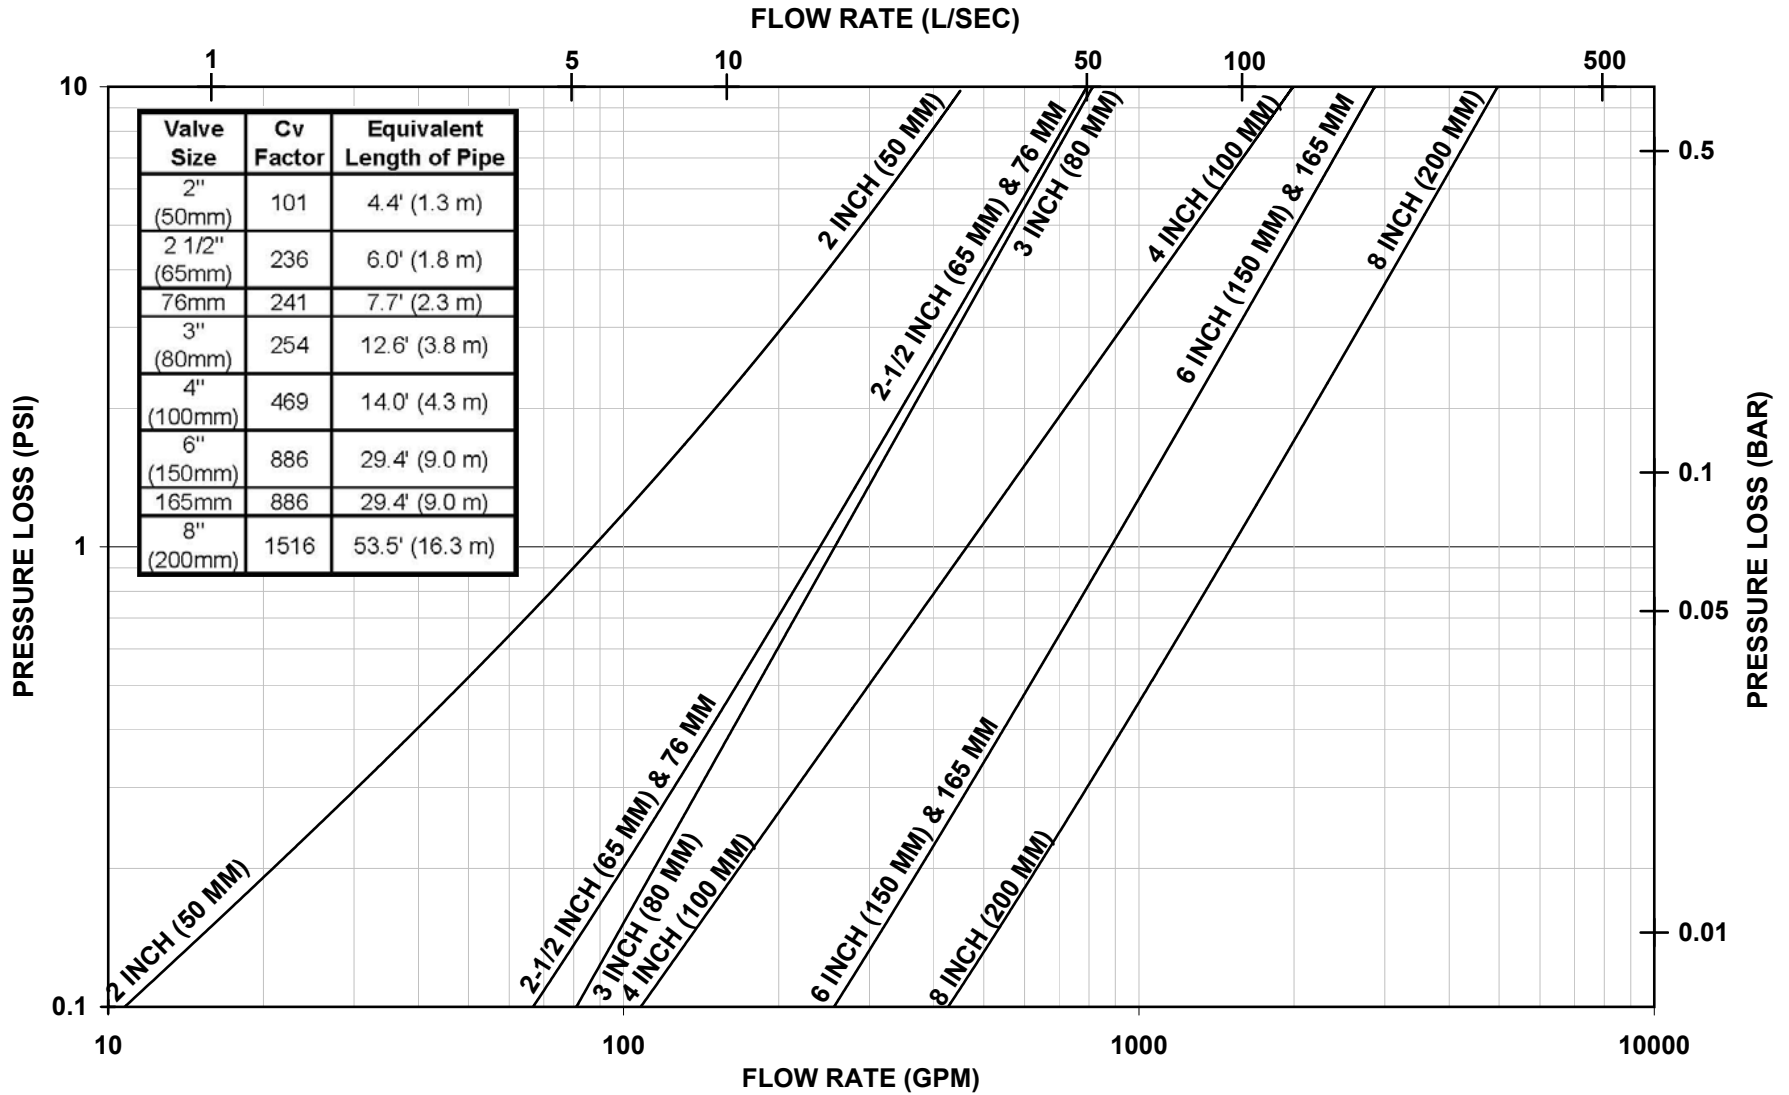

Fig. 3
8. Friction loss (Reference Figure 3).